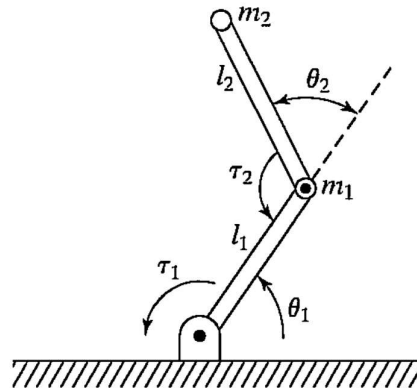

Fig. Q.2 (a)
Q.2(a) Derive equation of motion of a 2R planar manipulator shown in Fig. Q.2 (a). [10] 2 Derive